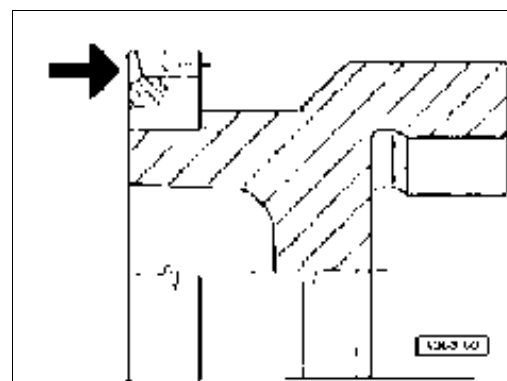

Fig. 43 - Ring gear position on engine flywheel.
- Heat the new ring gear up to a temperature of about 200° C and position into flywheel housing. Ensure the tooth chamfers are turned upwards as shown in figure 43.
The flywheel contact surface should thoroughly be in the same plane as the clutch plate. This can be verified by fitting a magnetic base comparator as illustrated in figure 43 and rotating the flywheel by hand.